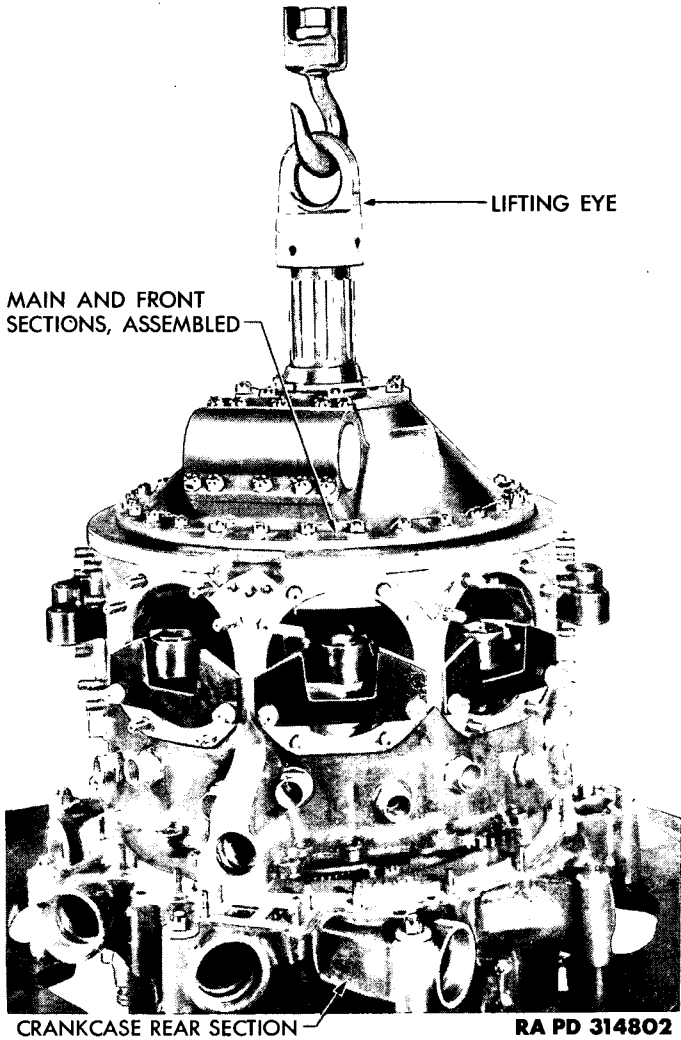

Figure 70 – Removing Main Crankcase Section with Lifting Eye 41-E-615
(2) **REMOVE WITH LIFTING EYE.** When using a lifting eye to remove the main crankcase section, remove the front and main sections as an assembly and separate them later. Separating the sections after removal prevents damage to the rear main bearing. After removing cylinder assemblies (subpar. o above), remove ignition harness and main section attaching nuts (subpars. u through v (1), above). Attach lifting eye. Remove crankcase front and main sections as an assembly (fig. 70). Proceed with disassembly steps (subpars. p through t, above).